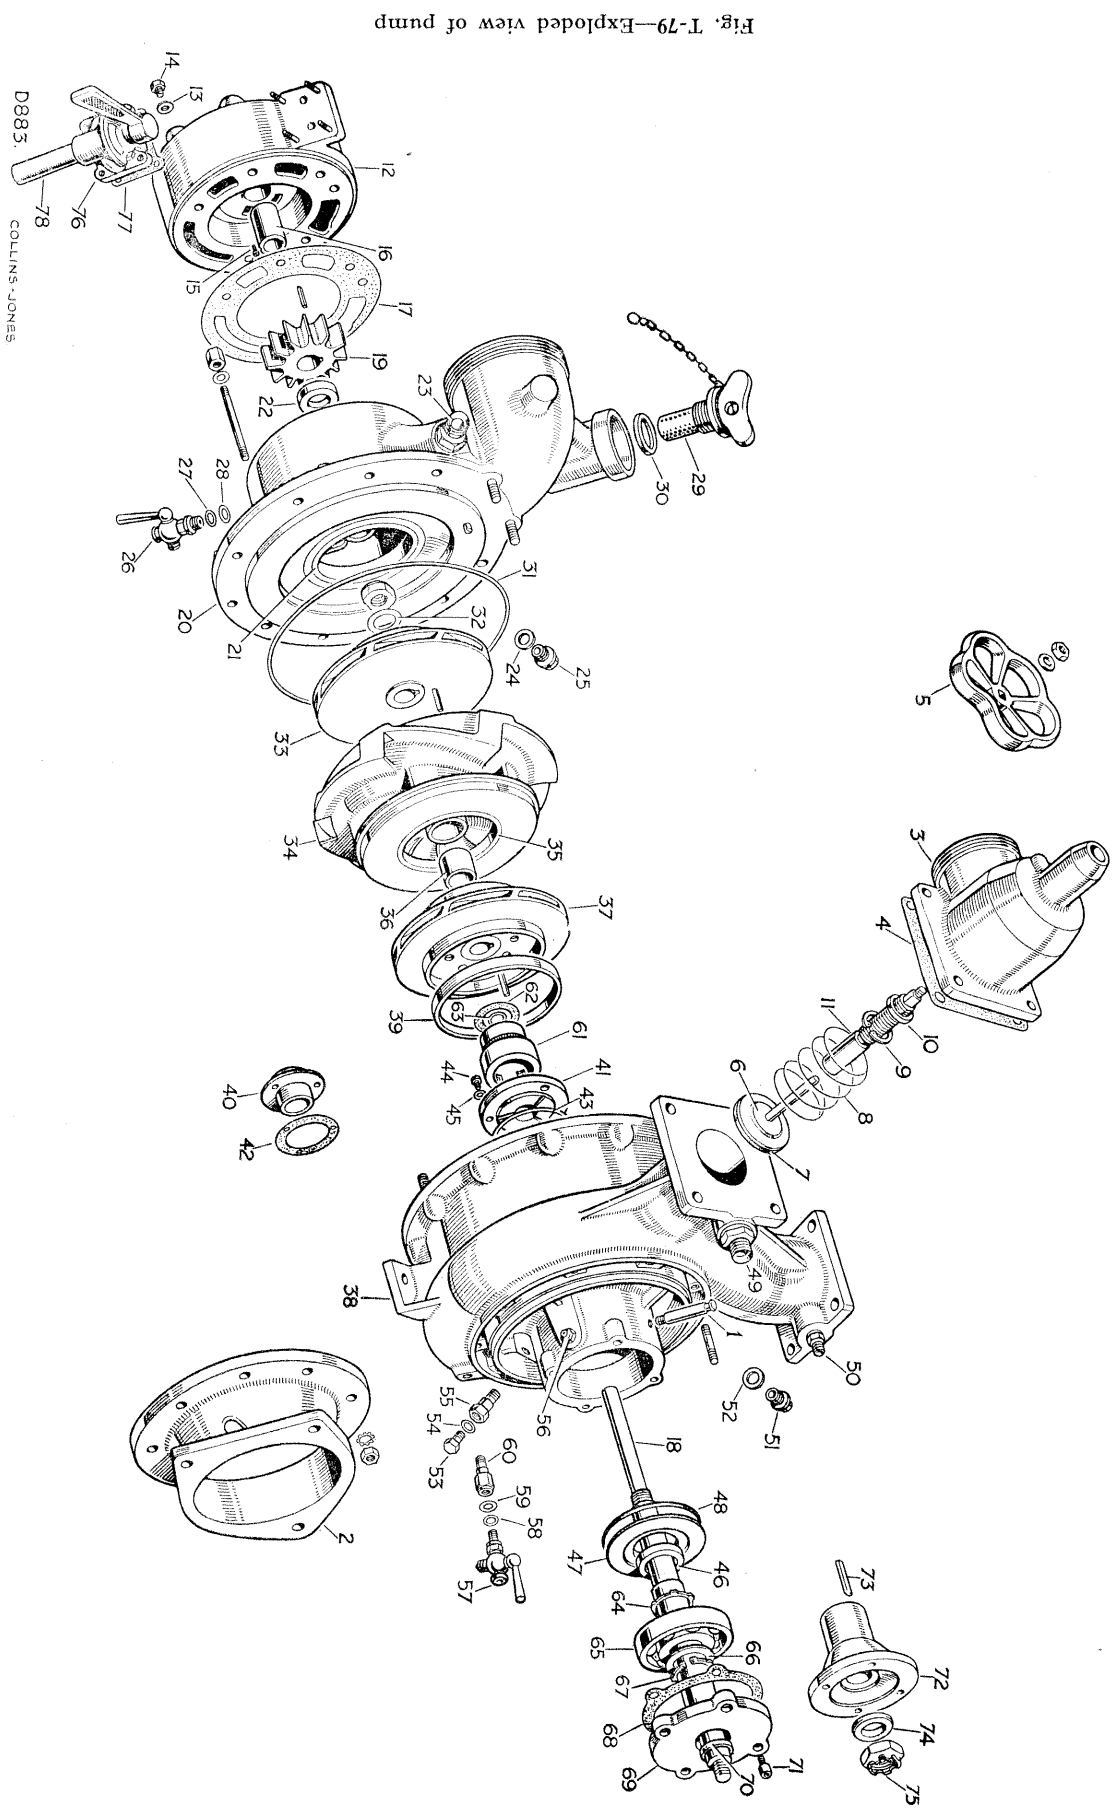

Fig. T-79—Exploded view of pump
Key to Fig. T-79
5. The fibre washer and 'O' ring seal (see Fig. T-79) must be replaced if any sign of deterioration exists.
13. The seal (70) in bearing cover, seals (46) and stationary sealing ring (40 or 41), joint washer or sealing ring (42 or 43) and seal cover (47), if fitted, may now be removed if necessary, from the main casing.
14. Remove the priming cock and exhaust pipe assembly (76) from the priming pump cover.